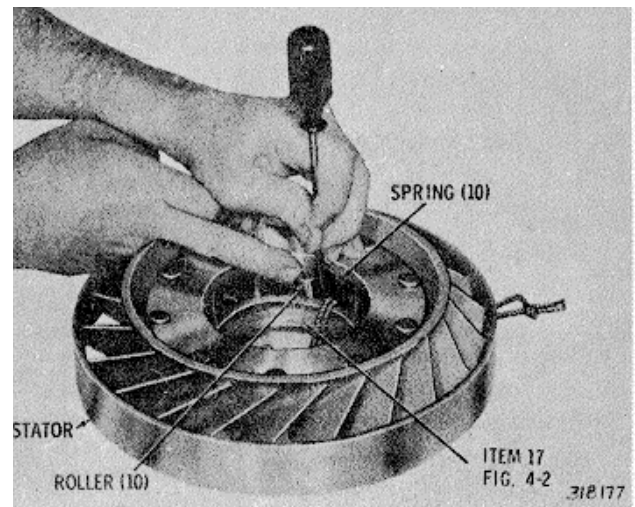
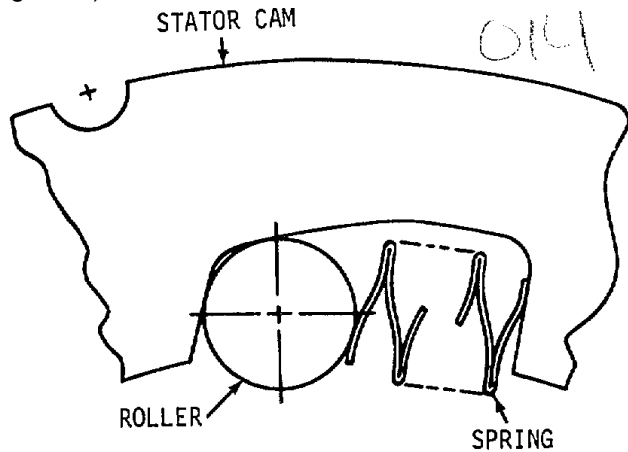

Fig. 6-9. Installing stator freewheel roller
Fig. 6-10. Spring and roller in stator cam.
(2) Coat the pockets of stator 9, stator springs 10 and rollers 11 with oil-soluble grease.
(3) Install stator roller holder 17 (fig. 4-2) into the stator against the thrust bearing race installed in (1), above (fig. 6-9).
(4) Install ten freewheel roller springs into the stator cam pockets. The springs must be positioned as shown in figure 6-10 (5) Install ten freewheel rollers (fig. 6-9).